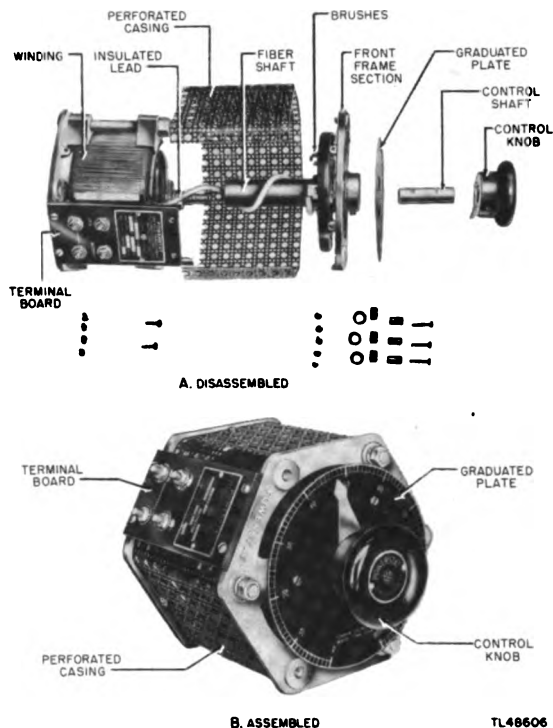

Figure 2-5. Modulator powerstat.
a. *General*. The one powerstat (fig. 2-5) used in Radar Set AN/MPG-1 is located behind the upper right-hand panel of the modulator cabinet. The powerstat is of sturdy construction and is protected so that little maintenance other than inspection is required. Perform complete maintenance only when indicated necessary by inspection or when the powerstat is removed for other reasons. Refer to chapter 15, TM 11-1566 for the procedure in removing and disassembling the powerstat.
(1) *Inspect (I).*